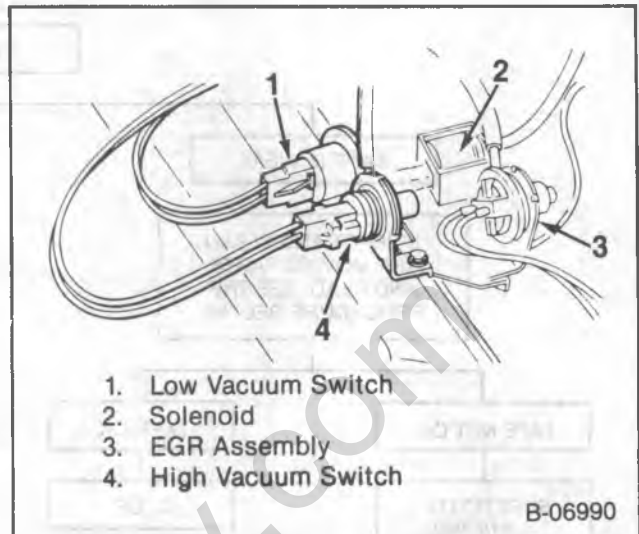

Figure 38 — Diesel EGR High Vacuum Switch
2. The noise is being generated by the high vacuum switch in the EGR assembly (figure 38).